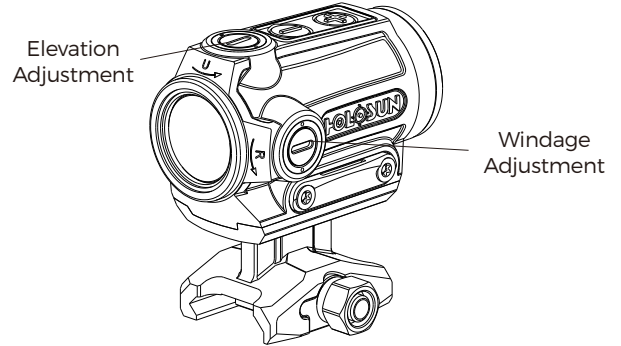

Fig 8
2. The Elevation adjustment is located on top of the tail section of the housing and the Windage adjustment is located on the right side of the housing. Adjustment can be performed by inserting the flat-tipped end of the included tool into the turret slot and rotating. (See Fig 8)